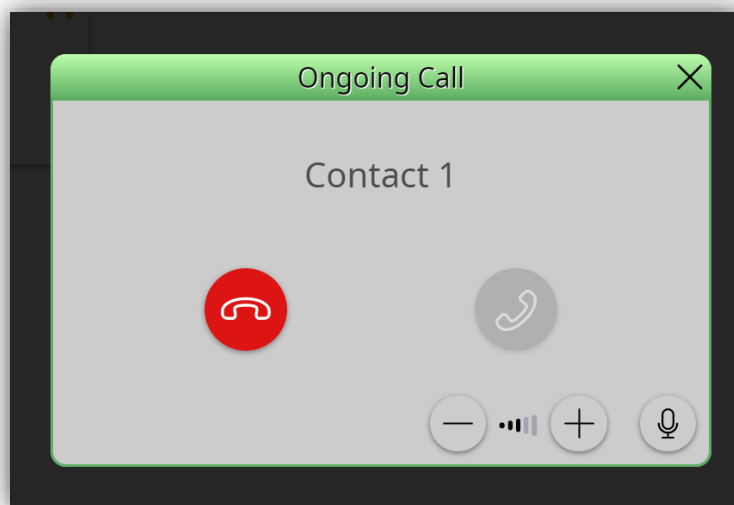

Figure 110. Ongoing call
- **Accept call:** opens ongoing call dialogue (Figure 110) initiating the audio communication.
When accepting an incoming internal call, the interface in Figure 110 will be displayed.